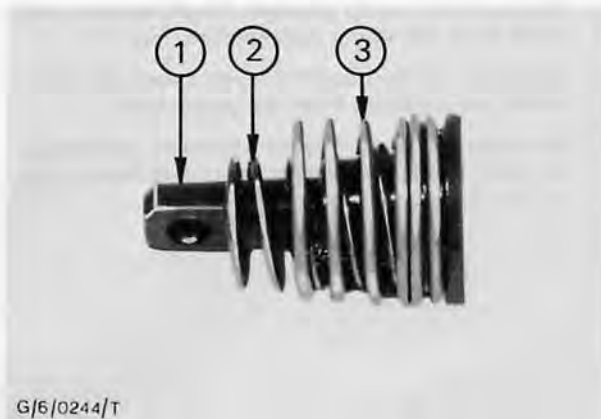

Fig. 18. 1. Retaining Pin
15. Remove the retaining pin and helical compression springs from the tensioning lever, Fig. 18.